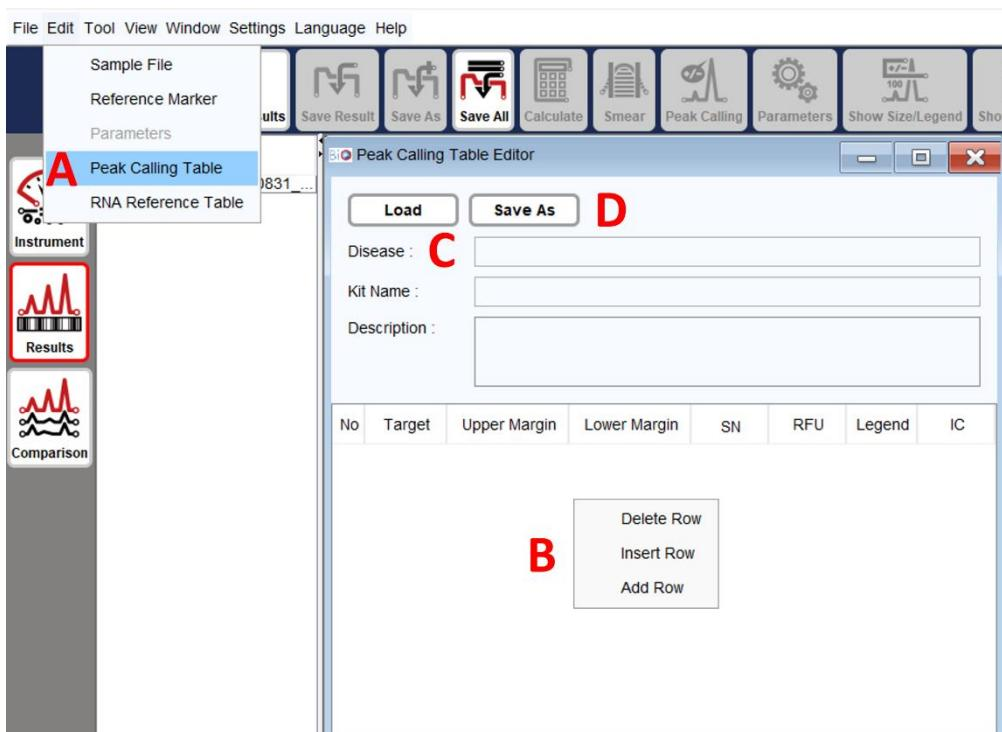

Figure 51 Peak Calling Table
1. Click on **Edit → Peak Calling Table** to open the Peak Calling Table Editor (Figure 51 A).
2. Right-click and select **Add Row** to add a new panel (Figure 51 B).
3. Set up the new table by entering criteria in the respective columns (Figure 51 C) and save it as a new file (Figure 51 D) in the default folder.